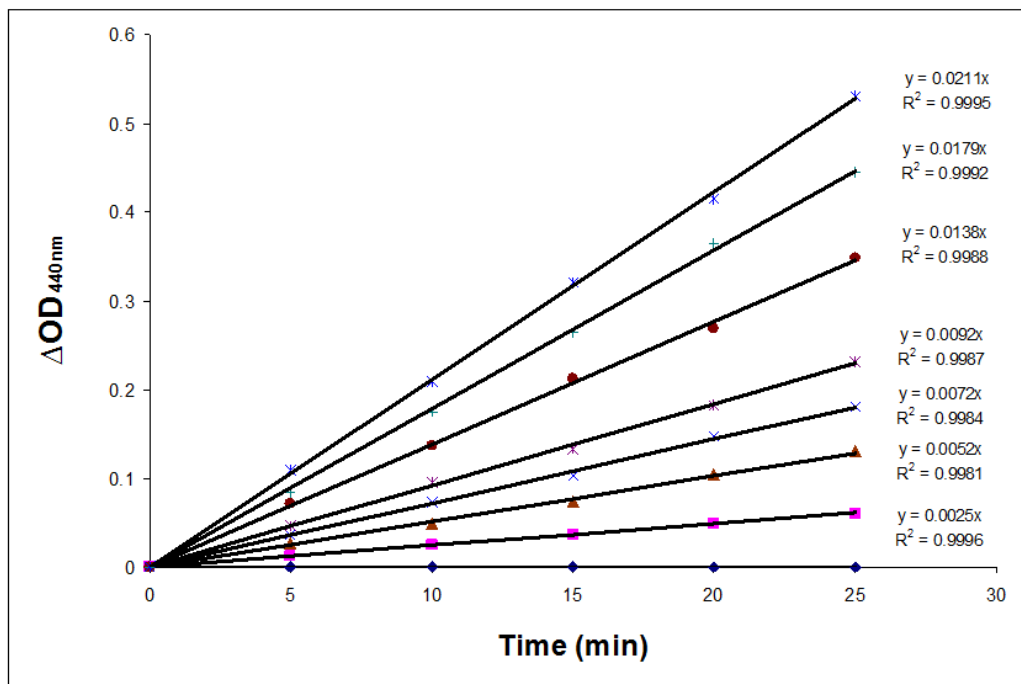

Figure 1. Absorbance change at 440 nm over 25 minutes of seven test samples using this kit.
9. Determine the change in absorbance $\Delta OD_{440nm}/\text{min}$ by plotting the ΔOD_{440nm} value at as a function of reaction time to obtain the slope of the linear portion of the curves. Figure 1 shows an example of assaying HAT activity using this kit.
HAT activity of seven cell lysate samples is measured following the procedure of this kit. All samples were diluted 1:8 first, then 10 μL of each diluted sample was measured in a 100 μL final volume. The slope of $\Delta OD_{440nm}/\text{min}$ of each sample is shown in Figure 1 and Table 1. The calculated HAT activity is shown in Table 1.